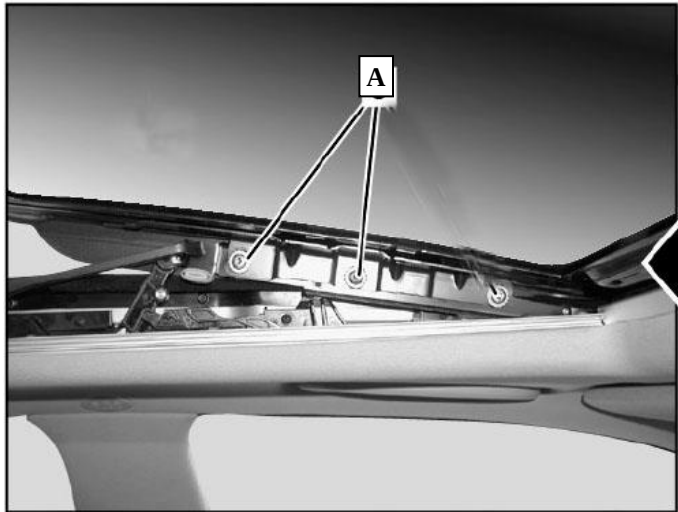

Figure 2
- i** If the sliding sunroof is **not** functioning, loosen the two rear sliding sunroof panel screws (**Figure 2, A**), lift the sliding sunroof manually and then read off the production date.